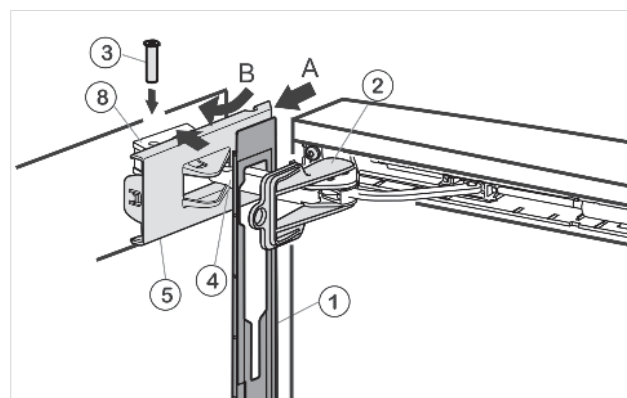

Fig. 57
- ▶ Hook panel *Fig. 57 (1)* into the damper bracket *Fig. 57 (4)* such that the detent hooks are pointing inwards and the front side is facing the appliance.
- ▶ Push on cover *Fig. 57 (5)* from the outside (A) and pivot over the bearing part *Fig. 57 (8) (B)*.
- ▶ Place cover *Fig. 57 (5)* on top and allow to snap into place until the first notch.
- ▶ Pull damper bracket *Fig. 57 (4)* towards bearing part and insert bolt *Fig. 57 (3)* from above such that the square head is resting in the recess.
- ▶ Now snap cover *Fig. 57 (5)* completely into place on the bearing part *Fig. 57 (8)*.
- ▶ Remove locking device *Fig. 57 (2)* by twisting it.
- ▶ Snap panel *Fig. 57 (1)* into place on the door.